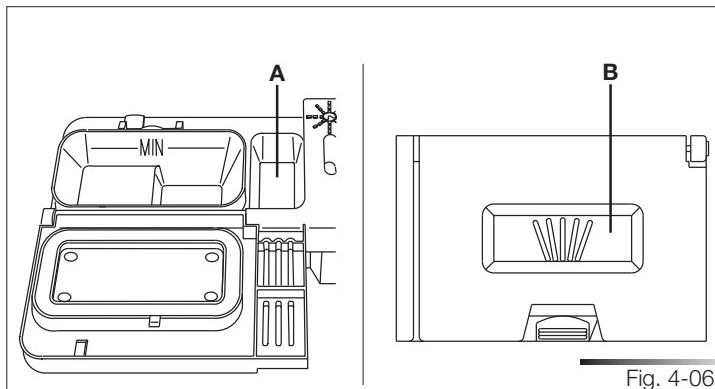

Fig. 4-06
- When a program with hot prewash is selected (see program table in the “Description of Controls” manual), extra detergent must be placed in the cavity (ref. A or B fig. 4-06, depending on models).